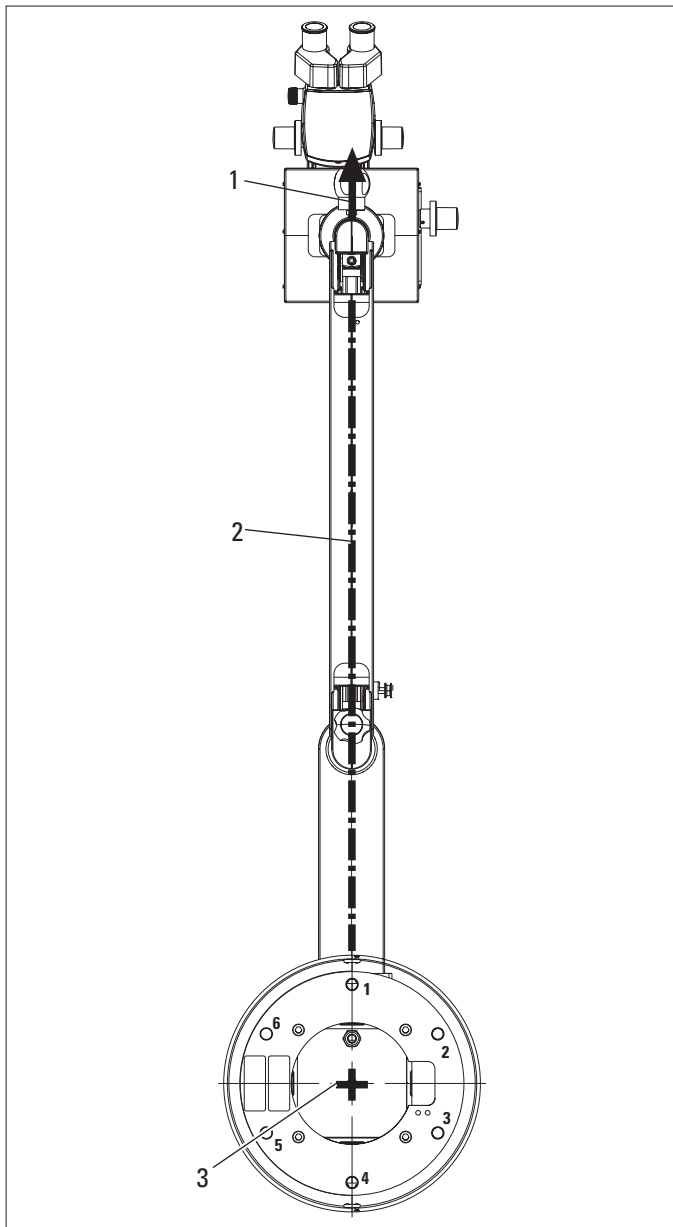

Fig. 1
⇒ Extend the entire system, align it in the main direction (1) and bring it into the horizontal position (Fig. 1).